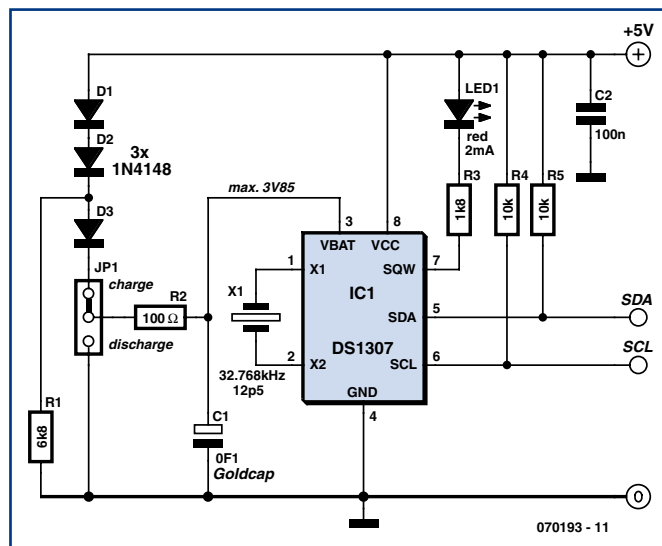

Figure 1: A few additional components are required to use a GoldCap to back-up the DS1307.
the output signal has twice the frequency of the input signal, as shown in **Figure 1**. In this example the phase difference between the signals is exactly 90°. This ensures that signal Y has a duty cycle of exactly 50%. When the
with the DS1307. As the supply voltage continues to fall below the battery voltage V_{BAT} the DS1307 switches into low-current mode. With these constraints in mind the circuit shown in **Figure 1** was produced. Resistor R1 draws current through diodes D1 and D2 which together produce a voltage drop of around 1.2 V. With a supply of 5 V the voltage at V_{BAT} is approximately 3.85 V. D3 prevents the GoldCap being discharged when the supply voltage falls and R2 limits the charging current (and discharge current when jumper JP1 is used to discharge C1, this process takes a few minutes).
The Dekatron consists (see **Figure 1**) of a central circular anode (a) and ten cathodes (k), numbered from 0–9. Between adjacent cathodes are two transfer electrodes, guides (A) and (B). A voltage applied between the anode (a) and the cathodes causes ionization of just one of the cathodes. To move on to the next cathode, a short negative pulse is applied to the next cathode. To drive a Dekatron takes a minimum of one triode or one transistor or a transformer, together with a differentiator circuit followed by an integrator. In the 60s, transistor circuits were developed for this purpose.
Note that the Dekatron shown in Figure 1 has a different pinout from the one in the circuit diagram. They are two quite different devices.